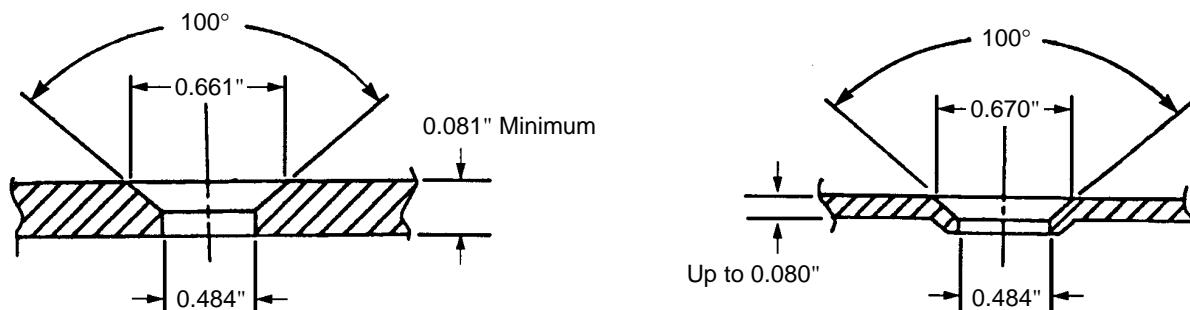

Figure 2 - 15F Series - Receptacle Sheet Preparation
- 5.2.3 For preparation of parts for installation of receptacles for 15F series fasteners, if dimpling is specified drill or punch to the required hole diameter as specified in Table 2 and ram coin dimple using a ZT1709 die and ZT1710 punch according to PPS 1.01 or PPS 1.07, as applicable. If countersinking is specified, pre-drill to the pilot diameter specified in Table 2 before countersinking to the diameter and angle specified in Figure 2.
1. The 15R1-1AC receptacle is a threaded mount and does not require riveting for installation (see Figure 2).